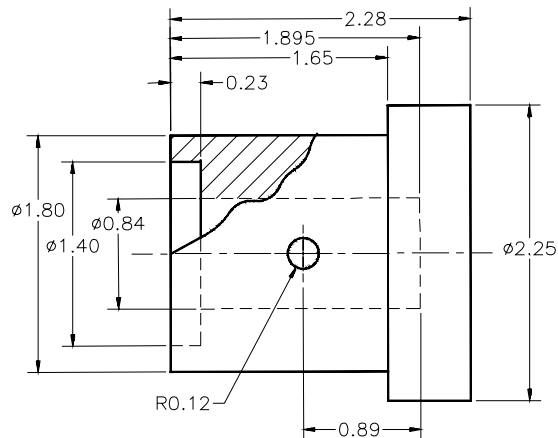

Figure 16-33 Drawing of Part-2
4. Draw Part-2 with dimensions as shown in the Figure 16-33. Save the drawing as Part-2.